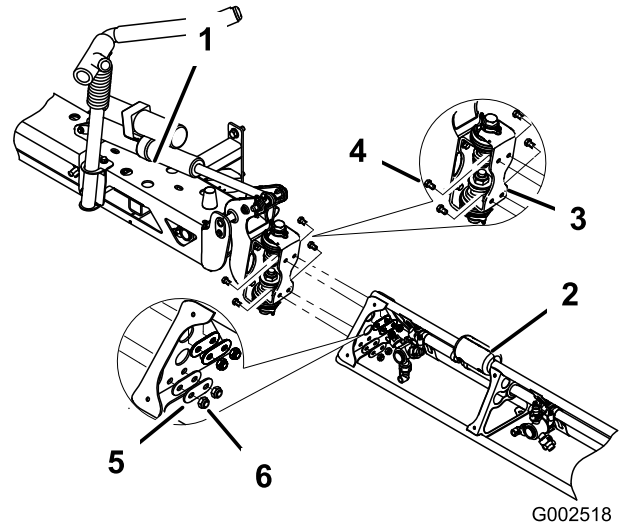

Figure 27
7. Install the extension boom to the center boom at the hinge plate using four bolts, four washers and four nuts removed in step 6 as shown in Figure 27.